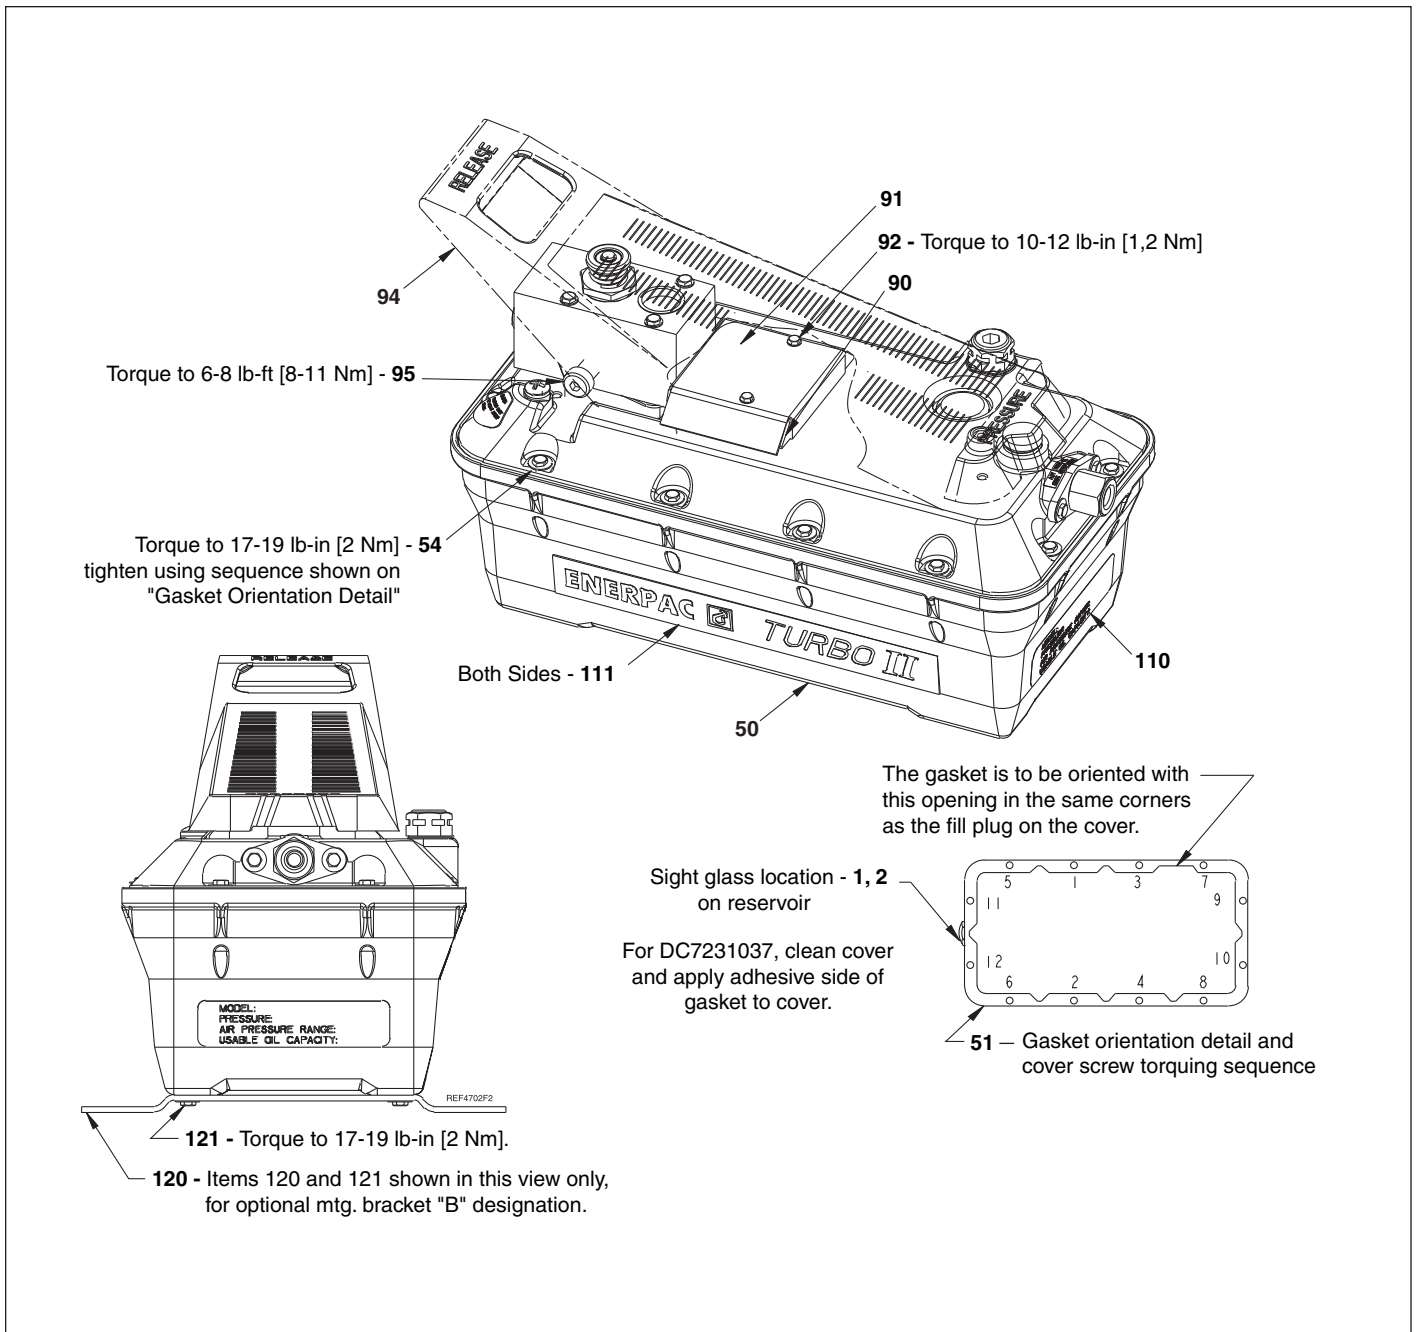

Figure 1, Treadle Assembly, T Version
5. Replace pump cover. See Figure 1 for gasket orientation detail and cover screw torquing sequence.
Repair Parts List for Figure 1